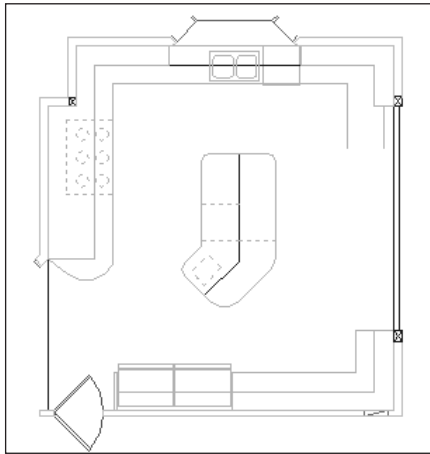

Figure 9-21: Kitchen floor plan with all selected items shown dashed
7. Turn off OSNAP. To select the interior lines on the kitchen's island by using a fence, type **f** ↵. Then pick points ⑤, ⑥, and ⑦. Press Enter to end the fence.
8. Type **r** ↵ at the **Select objects:** prompt (the prompt changes to **Remove objects:**) and pick the line at ⑧ to remove the external island line picked in Step 7. At this point, all the selected items should be dashed, as shown in Figure 9-21.